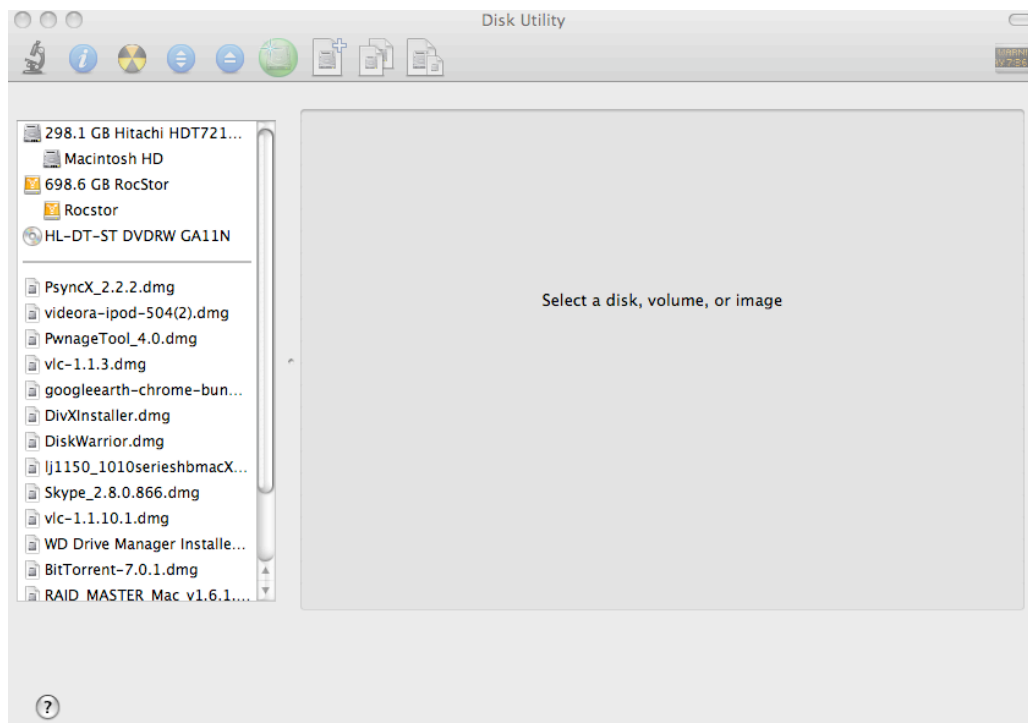
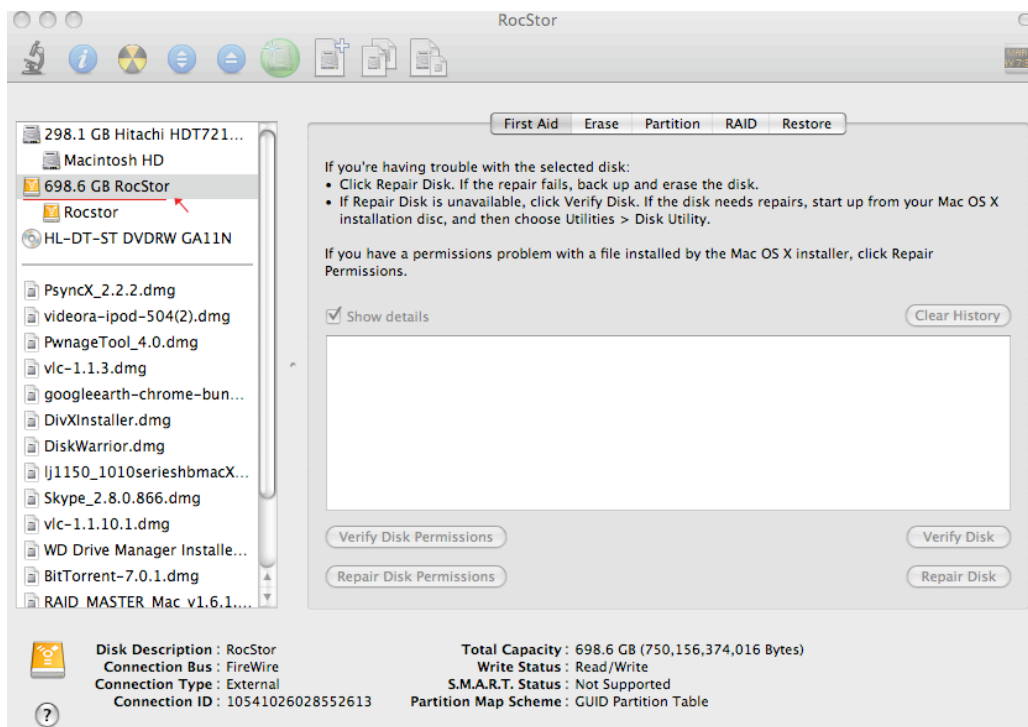

Figure 5.0
Figure 5.1
7. On the left side of the “**Disk Utility**” menu is a list of available drives (figure 5.0.) One will show as Rocstor drive. Click on the icon showing the disk capacity (figure 5.1.)